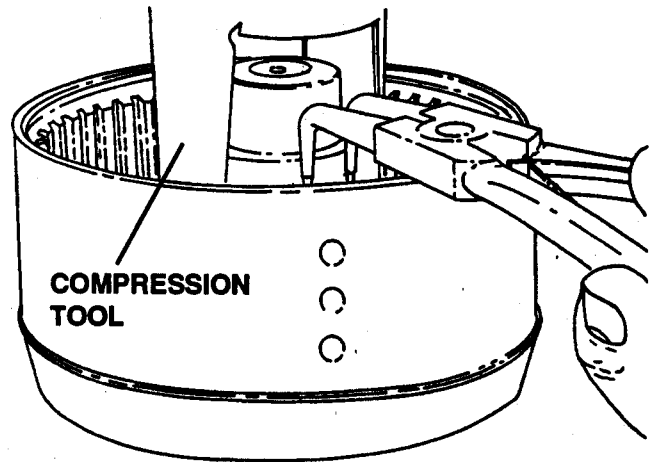

Figure 45.
4. Remove taper roller bearing (103) using a suitable puller.
5. Position clutch on press and compress piston spring (110). Remove circlip (108). See Figure 45.